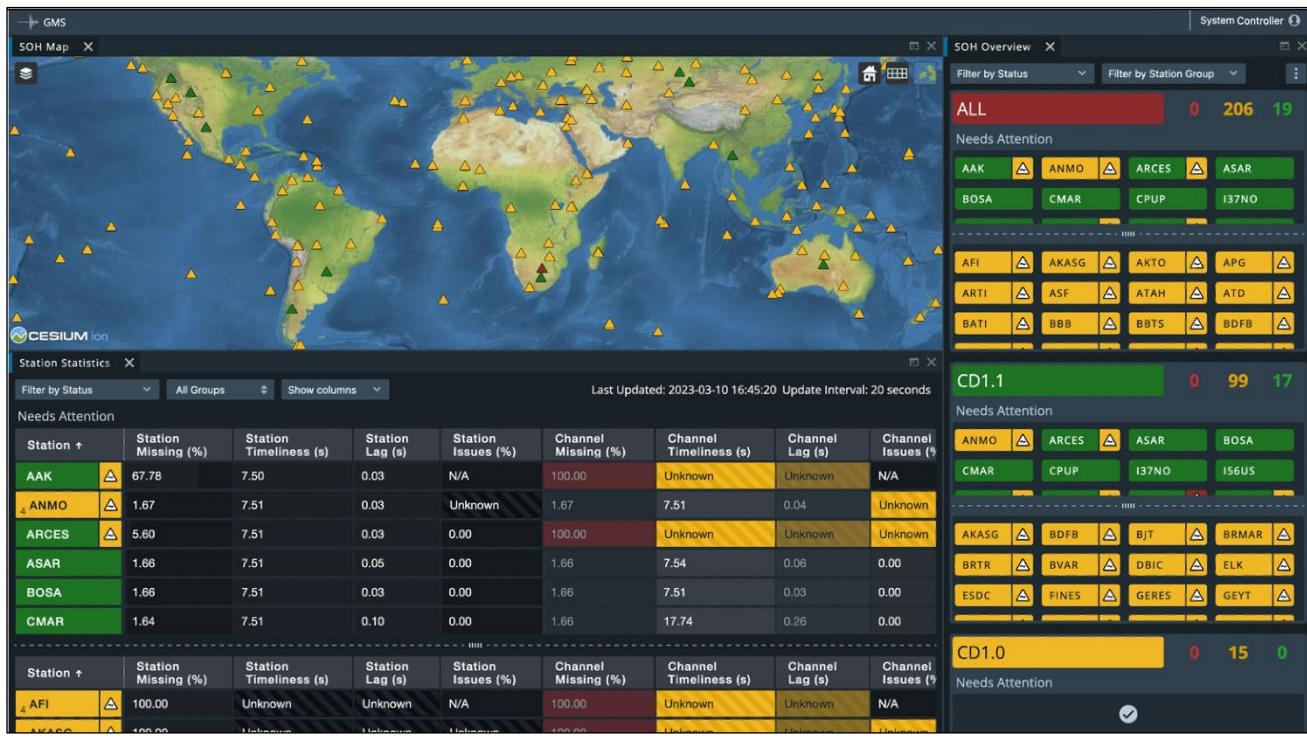

Figure 2. Default Workspace Layout of the SOH UI.
After logging in, the user will be taken to the default SOH UI workspace layout (Figure 2).
- SOH Map (Figure 2, top-left)
- Station Statistics (Figure 2, bottom-left)
- SOH Overview (Figure 2, right)
- 1) An individual display can be moved by clicking the corresponding tab and dragging it to the desired position; this action includes placing multiple displays in one window with the display tabs next to each other (e.g., Figure 2, right).
- i) From this menu the user can select the Overview layout, which restores the workspace to the default layout (Figure 2), an alternative layout provided with the UI (e.g., the All Data layout), or a personalized layout made by the user, if applicable. Workspace layouts are described in detail in Section 5.1.
- i) This option restores the default workspace layout (Figure 2). If another workspace layout was saved as the default (see Section 5.1), this action will restore the SOH UI to the saved default layout.
In addition to the default Overview workspace shown in Figure 2, seven other layouts are provided. Each layout is designed to enhance viewing of a particular SOH feature.
- Clear Layout – Resets the UI display to the default layout. This option resets the UI to the layout shown in Figure 2 if the user did not make an alternative layout the default (see bullet 3).